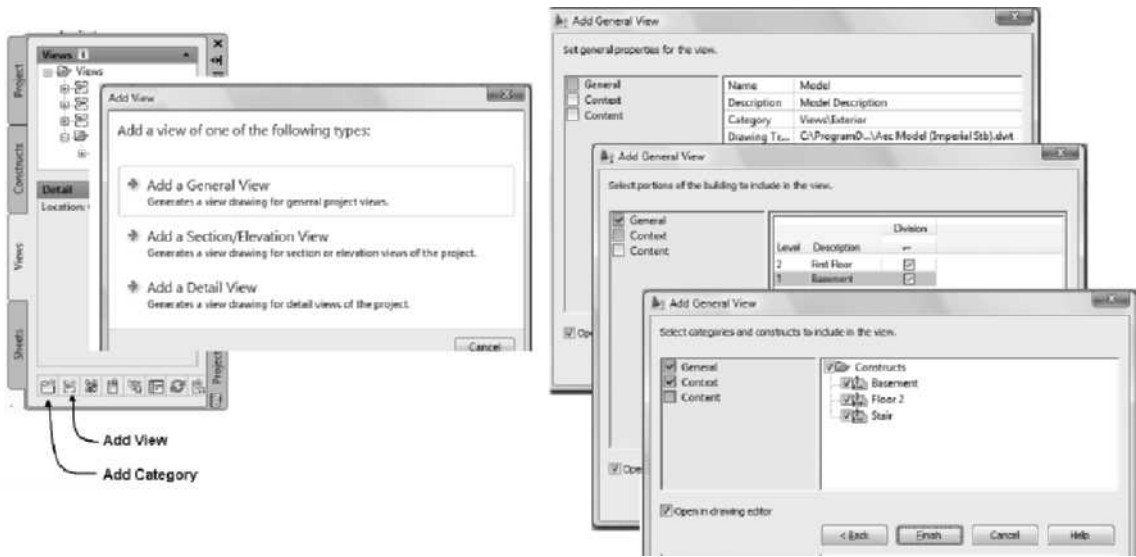

FIGURE 12.63 Creating the Model View drawing
4. Select the **Views** tab and select the **Add Category** command from the toolbar located at the bottom of the **Views** tab. Overtyp **Exterior** as the name of the category. Select the **Exterior** category and then select the **Add View** command from the **Views** tab toolbar. Choose **Add a General View** option from the Add View dialog box. Verify **General** page of the Add General View dialog is open edit the following: Name = **Model**, Description = **Model View**, and then click **OK** to dismiss the **Description** dialog box. Choose *Open in the drawing editor* checkbox. Click **Next** and edit the **Context** page as follows: Check Division **1** for **Level 1 [G]** and **Level 2 [1]**. Click **Next** to display the **Content** page and verify that Constructs, Floor 2, Basement, and Stair are checked as shown in Figure 12.63. Click **Finish** to close the dialog box.